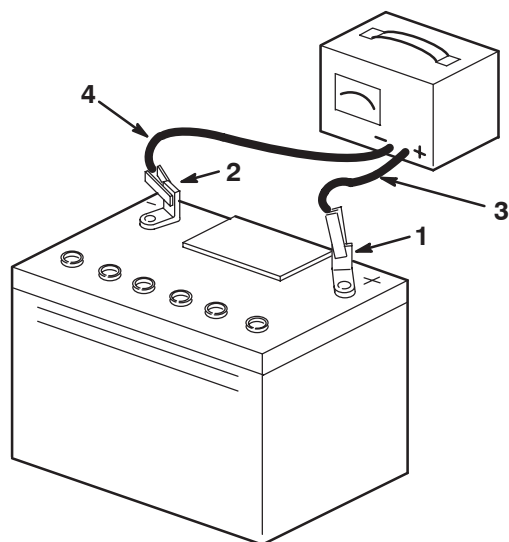

Figure 5
7. Charge the battery for 10 to 15 minutes at 25 to 30 amps or 30 minutes at 4 to 6 amps (Fig. 5). **Do not overcharge the battery.**
8. When the battery is fully charged, unplug the charger from the electrical outlet, then disconnect the charger leads from the battery posts (Fig. 5).